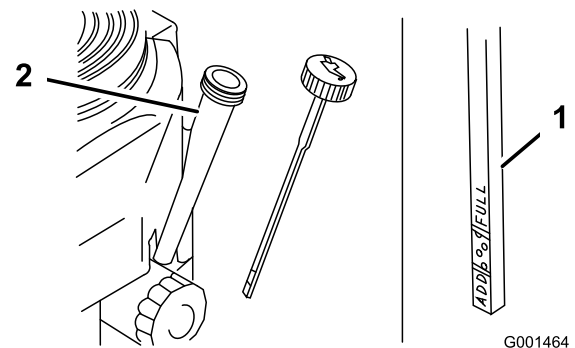

Figure 31
4. Clean around the oil dipstick (Figure 31) so that dirt cannot fall into the filler hole and damage the engine.
5. Unscrew the oil dipstick and wipe the end clean (Figure 31).
6. Slide the oil dipstick fully into the filler tube, but do not thread onto tube (Figure 31).
8. Slowly pour approximately 80% of the specified oil into the filler tube (Figure 31).